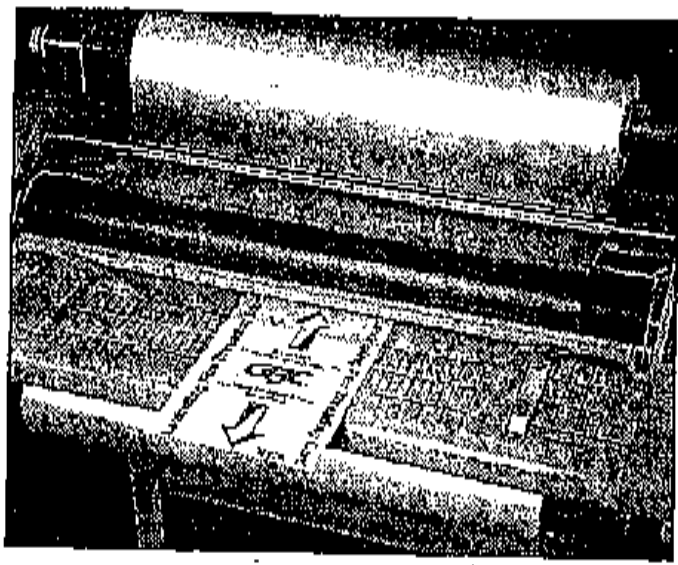

Fig. 10
13. Slide a threading card into the two overlapping films and push into the nip rollers. (Figure 10).